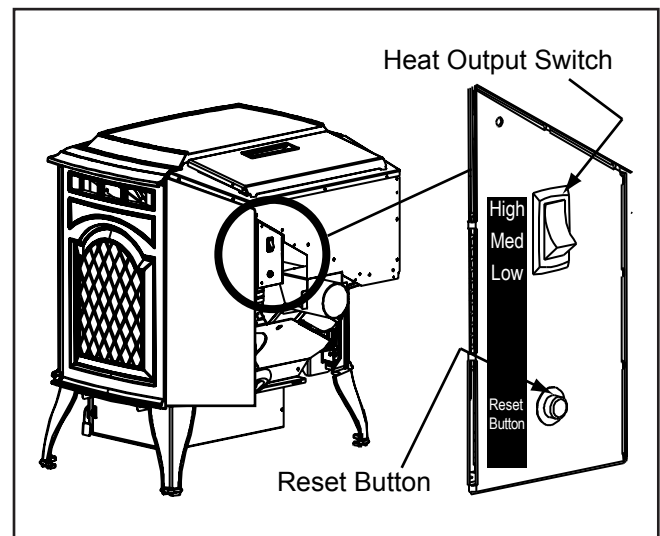

Figure 21.1
3. Locate the heat output control switch mounted on the back of the appliance in the upper right corner. **See Figure 21.1 on page 21.** Turn it to the "high" setting by pushing the top of the control switch in and then adjust the thermostat to its highest setting. Open the right side panel and the red call light located behind the control box will be on. **See Figure 22.1.** This indicates the thermostat is calling for heat.
3. Occasionally the appliance may run out of fuel and shut itself down. When this happens, the red call light will be on. **(See Figure 22.1, page 22)**. To restart it, fill the hopper and press the reset button. **(See Figure 21.1, page 21)**. When you press the reset button the red call light will go out. Release the button and the light will come back on. You should see a fire shortly. If not, follow the instructions on **page 22**, of "Starting Your First Fire".